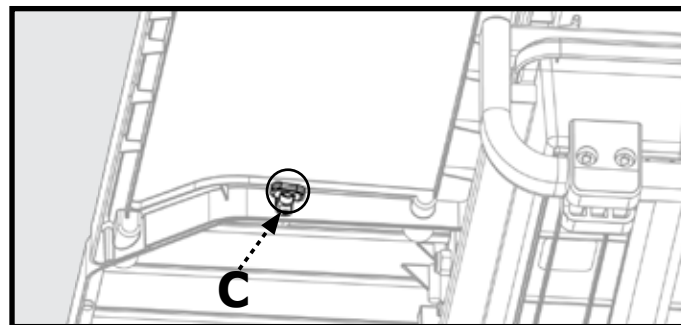

Figure 14
1. Place the Side Splash Tray (18) to align with the Table Extension.
2. Secure the Side Splash Tray to the Table Extension by tightening the Thumbscrew (C) under the Side Splash Tray as shown in Figure 14.